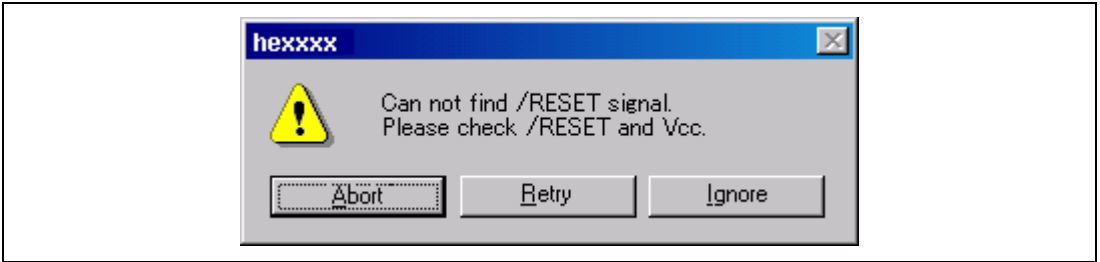

Figure 3.26 [Can not find /RESET signal] Dialog Box
- Notes: 1 If the emulator is not initiated, the following dialog boxes shown in figures 3.26 through 3.32 will be displayed.